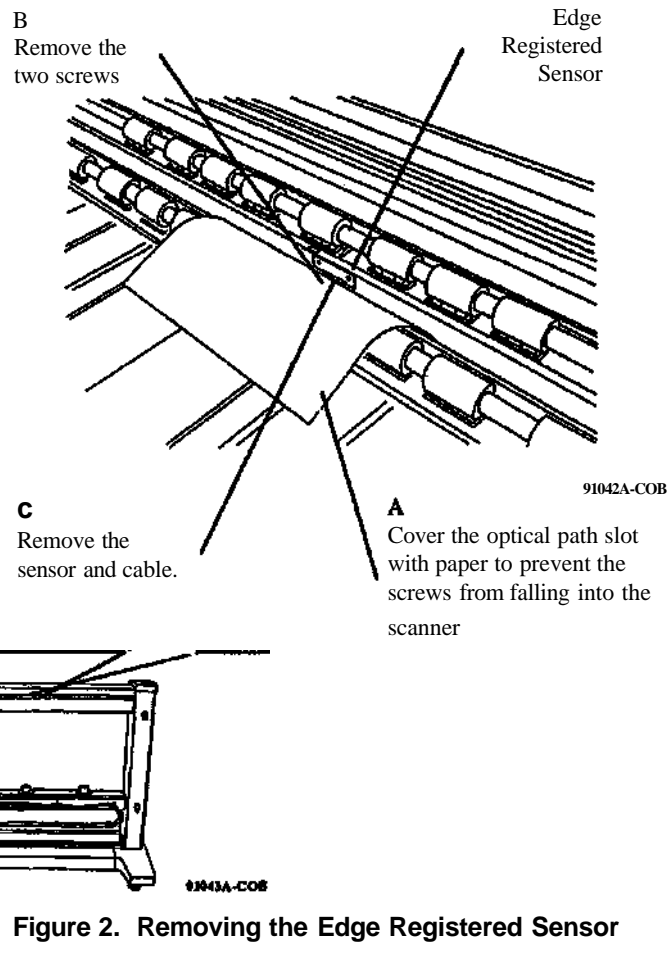

Figure 2. Removing the Edge Registered Sensor
4. (Figure 2): Remove the Edge Registered Sensor.
2. (Figure 2): Install the Sensor, Retaining Plate, and the 2 screws.